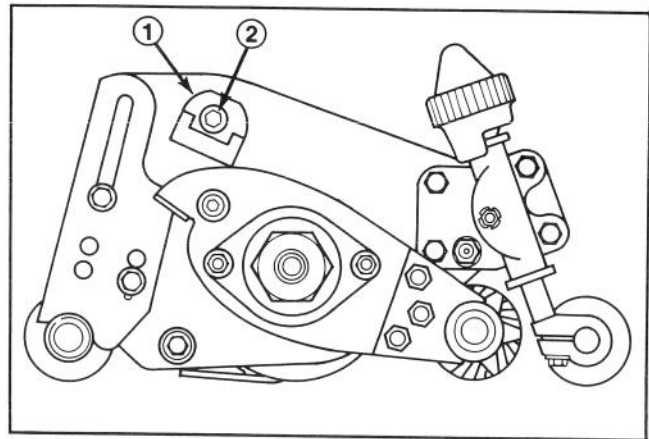

Figure 12
4. Special studs (2)
5. Inside locknuts (2)
6. Outside locknuts (2)
11. Remove the carriage bolt and quick up ramp. Hold the mounting block in position and tighten the allen head set screw to secure the mounting block assembly into the cutting unit cross tube (Fig. 12).